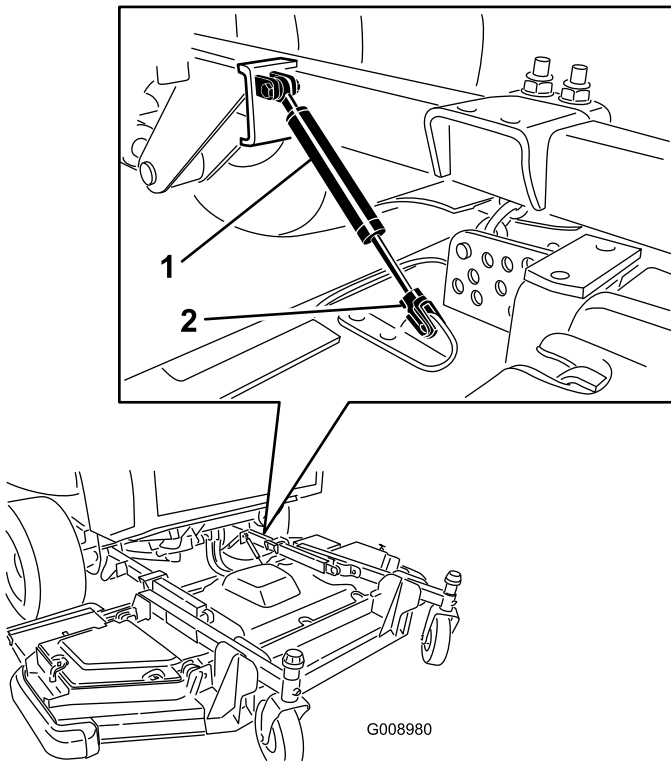

Figure 133
3. Remove the retainer clip and disconnect the damper assembly from the cutting unit (Figure 133).